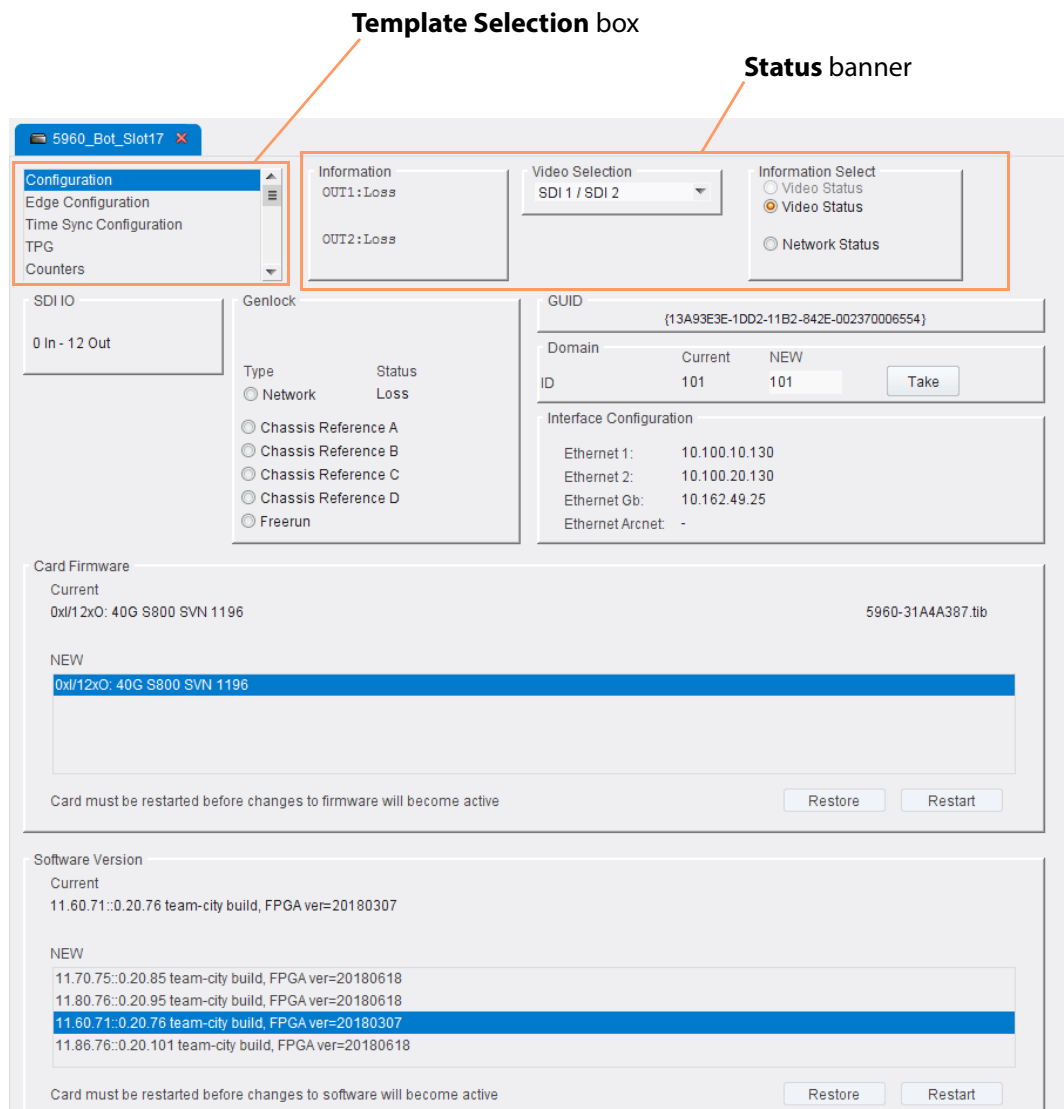

Figure 274 RollCall Template Example (5960 shown)
5. The RollCall templates of the circuit block are automatically downloaded and then displayed in the pane on the right. See Figure 274.